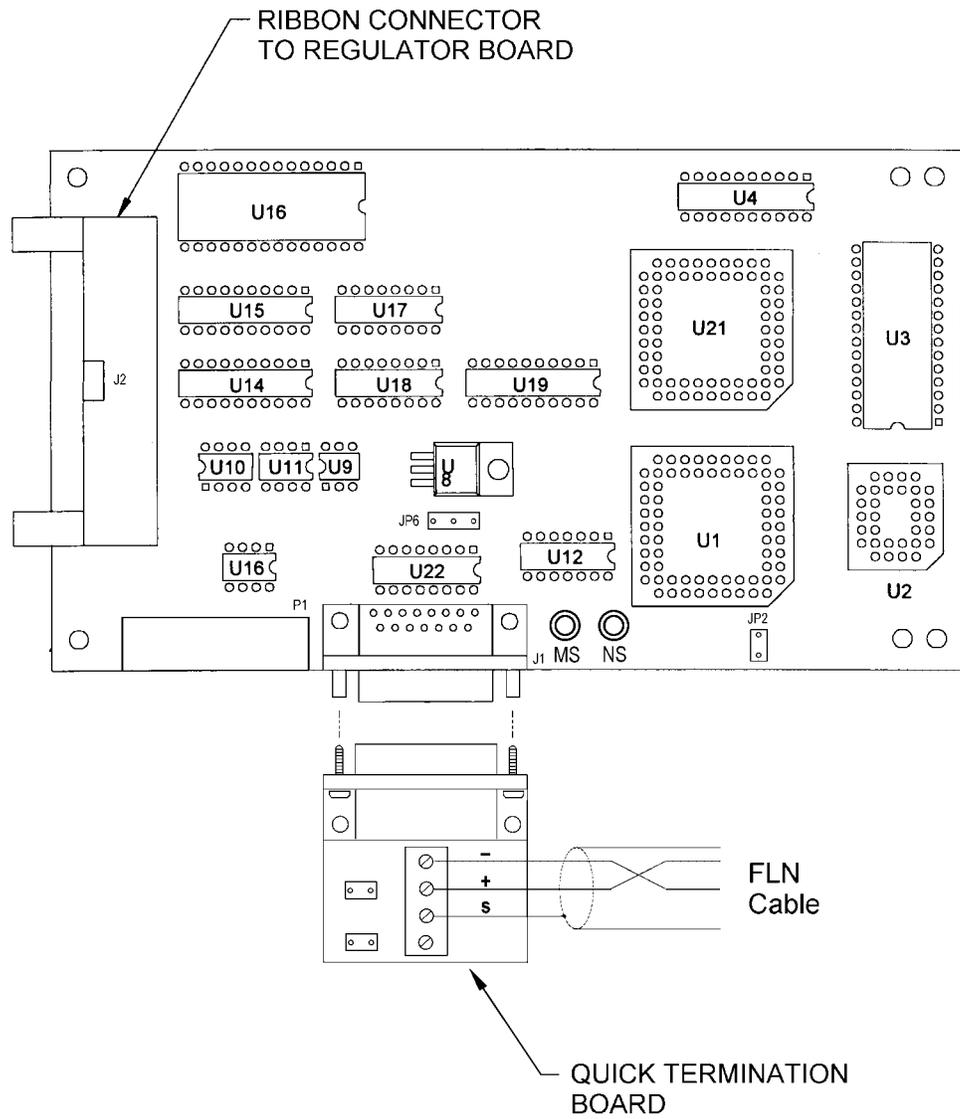

Figure 2.21 – FLN cable connection to QTB
4. Strip and connect FLN cables as shown in Fig 2.21. The shield cable lead must be kept as short as possible and mounted such that it will not SHORT with any exposed metal.